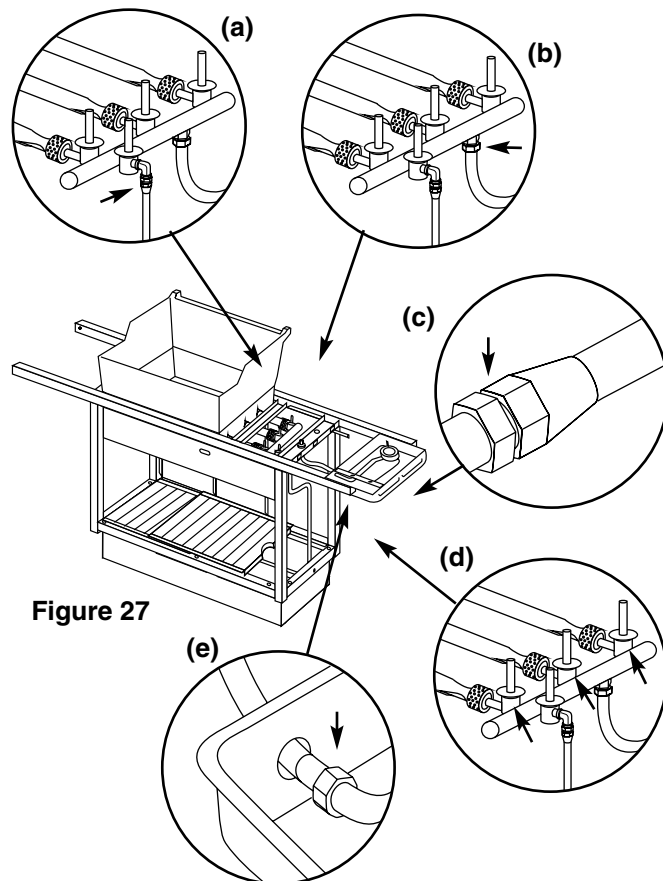

Figure 27
- a) Barbecue gas supply line to FlameCheck valve connection. Figure 27 (a).
- b) Manifold to side burner hose connection. Figure 27 (b).
- c) Barbecue gas supply line to natural gas supply connection. Figure 27 (c).
- d) Valves to manifold connections. Figure 27 (d).
- e) Side burner hose to side burner connection. Figure 27 (e).